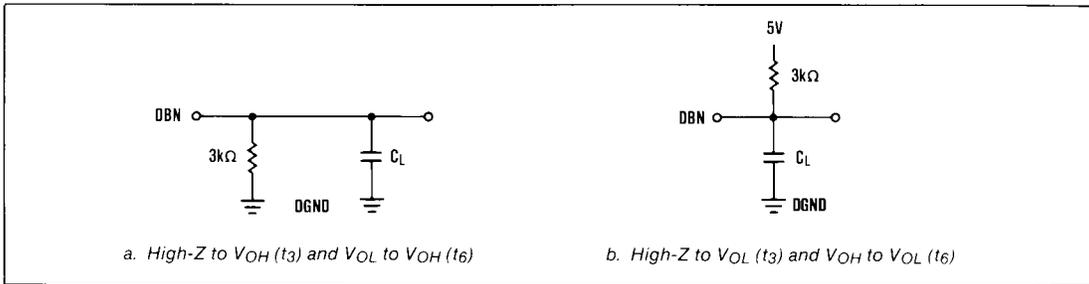

Figure 1. Load Circuits for Access Time
**Note 8:**  $t_3$  and  $t_6$  are measured with the load circuits of Figure 1 and defined as the time required for an output to cross 0.8V or 2.4V.